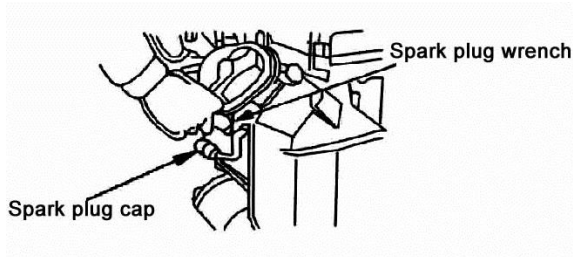

Fig. 23
- 1) Remove the spark plug cap, Dismantle the spark plug with a spark plug wrench. (Fig. 23) 。